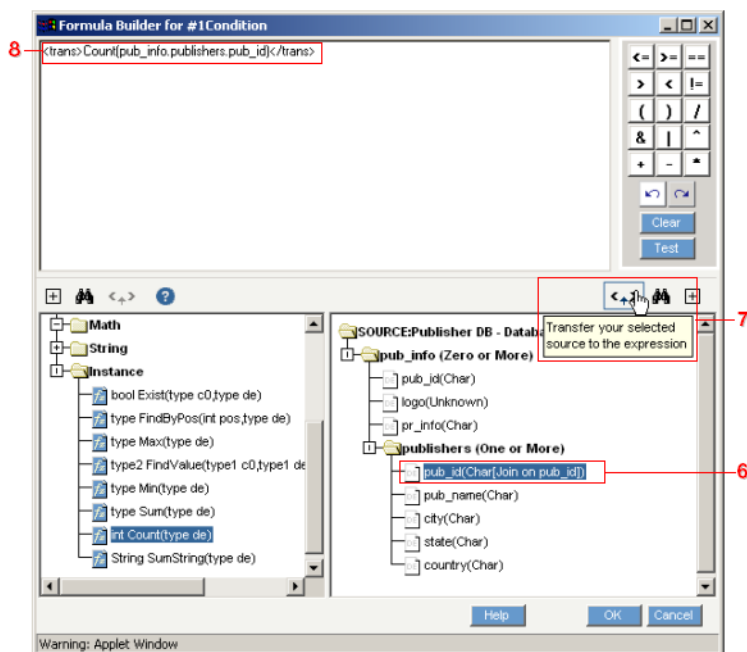

Figure 22-9. Select which source data element you want to use, then click the **Insert** button to place it into your expression.
- 8 The modified expression appears in the pane at the top of the dialog as shown in Figure 22-9 below.